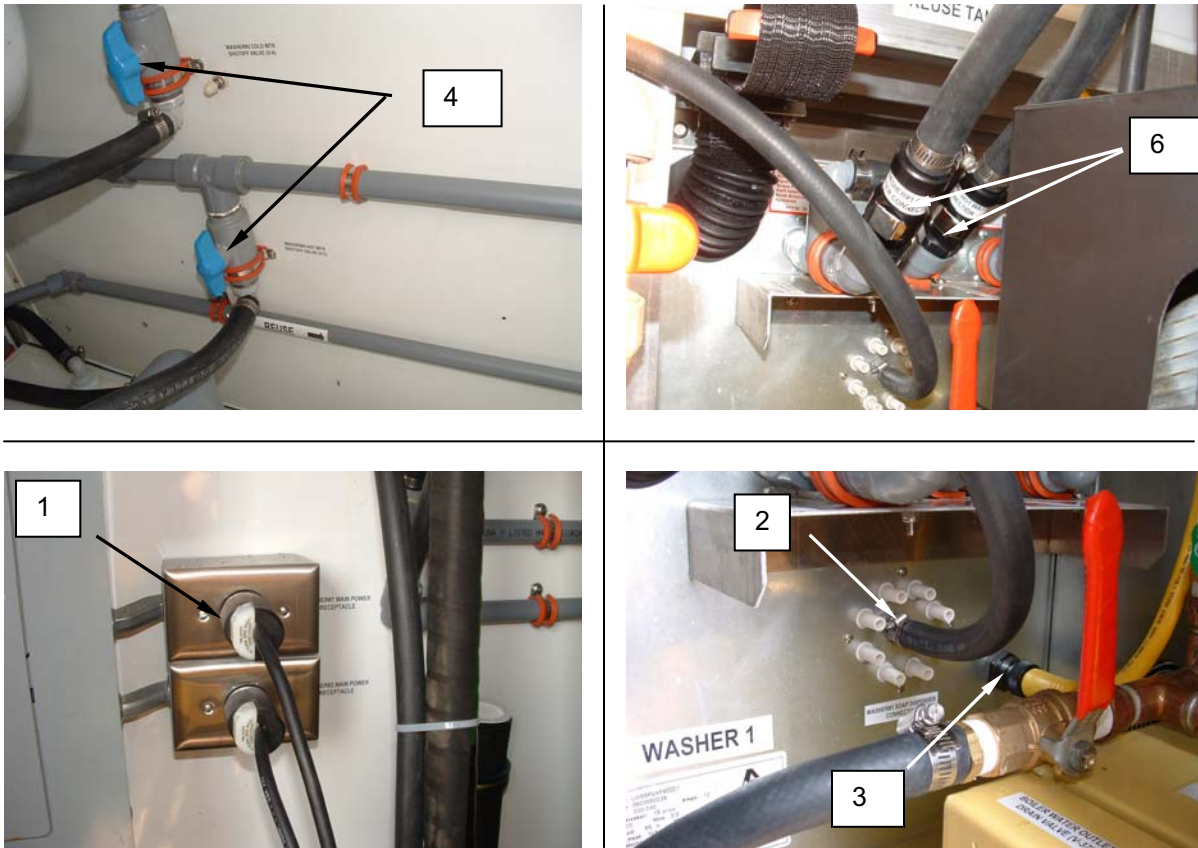

Figure 6. Install the Washer.
8. Connect the hot and cold water supply hoses (**Figure 6, Item 6**).
9. Connect the washer soap dispenser tubing (**Figure 6, Item 2**).
10. Connect washer power cord (**Figure 6, Item 1**) and soap dispenser control cable (**Figure 6, Item 3**).
11. Open washer cold and hot water supply valves (**Figure 6, Item 4**).